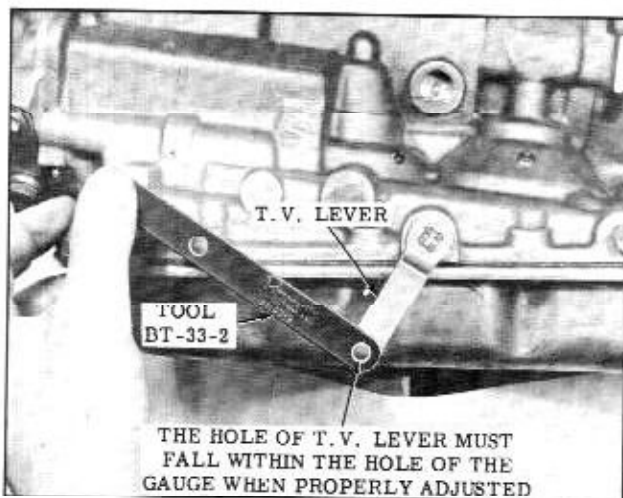
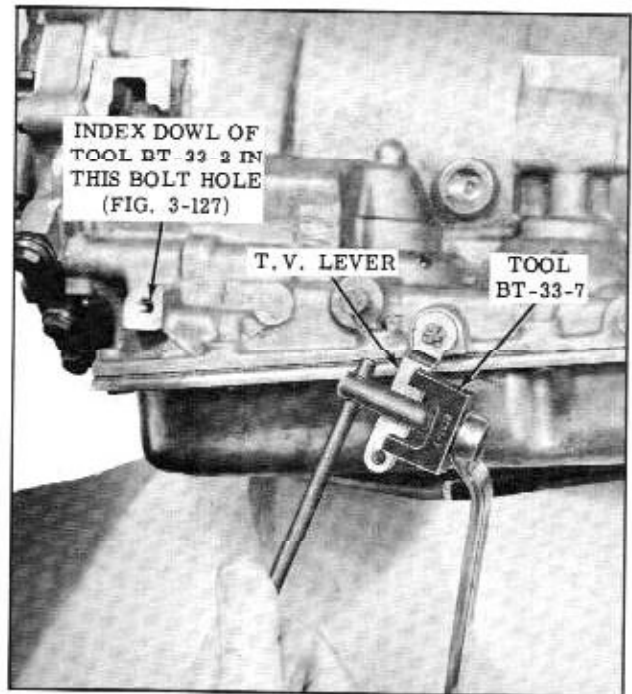

Fig. 3-137 Checking T.V. Lever
Fig. 3-138 Bending I.V. Lever
2. Disconnect lower throttle valve rod from throttle valve lever and position gauge BT-33-2 as shown in Fig. 3-137. The hole of the throttle valve lever must be within the hole of the gauge as shown when holding throttle valve lever in rearward position. If the hole of the throttle valve lever does not fall within the gauge hole, bend the lever with bending Tool BT-33-7. (Fig. 3-138)